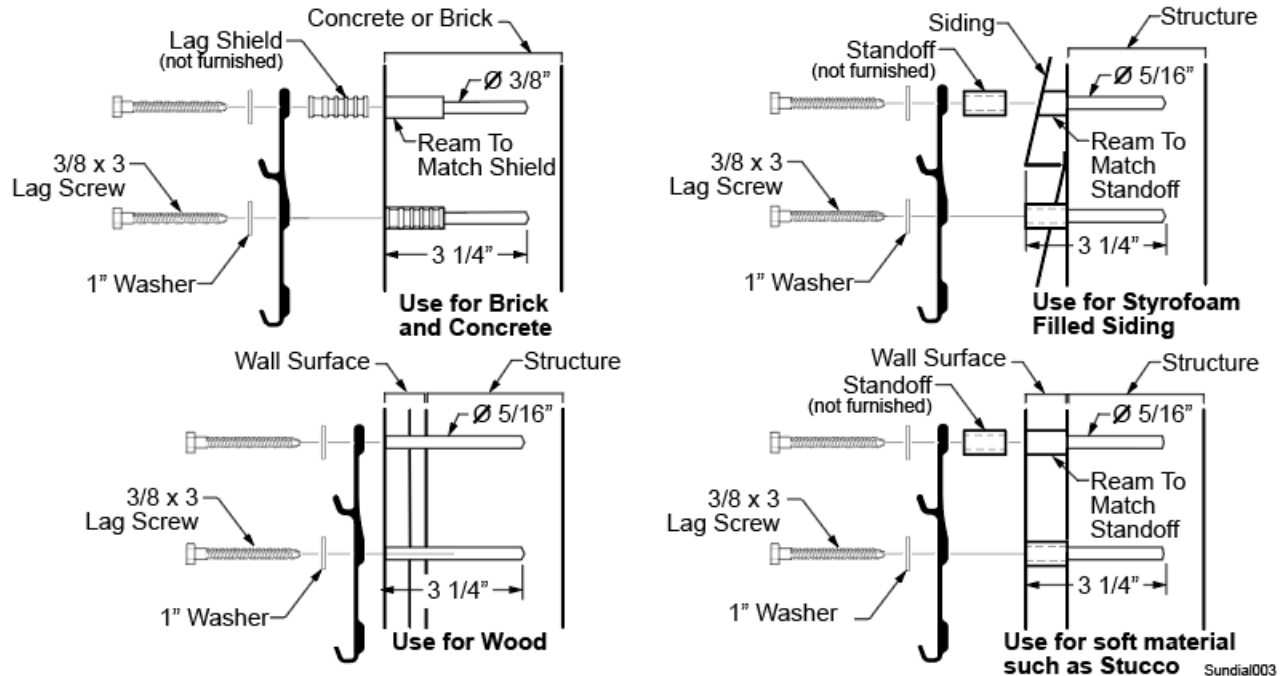

Figure 3
- 3.1. Using the plates as a template, drill 3/32" pilot holes for lag screws. You must drill the hole centered in the groove shown in Figure 3.